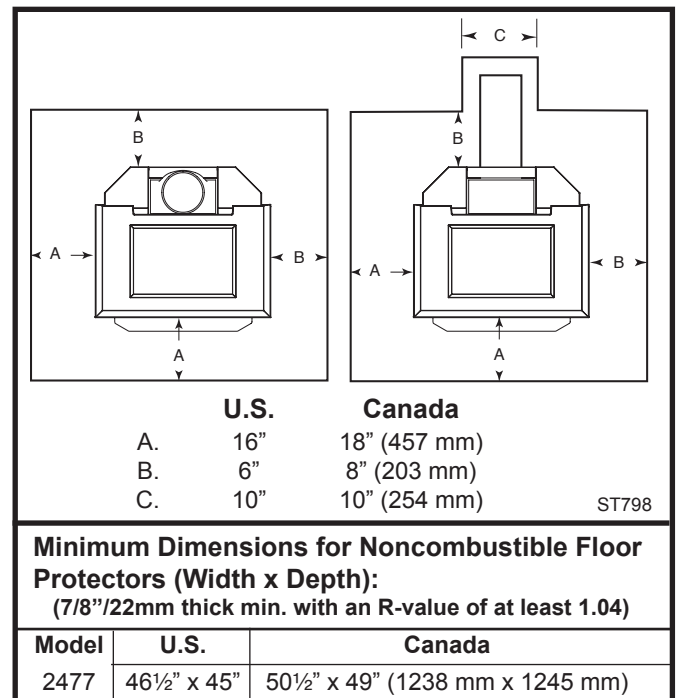

Fig. 12 Be sure to follow exactly the minimum floor protection requirements on all four sides of the stove.
U.S. Installations: The floor protector is required under the stove and must extend at least 16" from the front and left (loading door) side of the stove, and at least 6" from the right side and rear. (Fig. 12)
In Canada: a noncombustible floor protector is required under the heater also. The floor protector must extend 18" (457mm) from the front and left (loading door) side of the stove, and at least 8" (203mm) from the right side and rear. (Fig. 12)